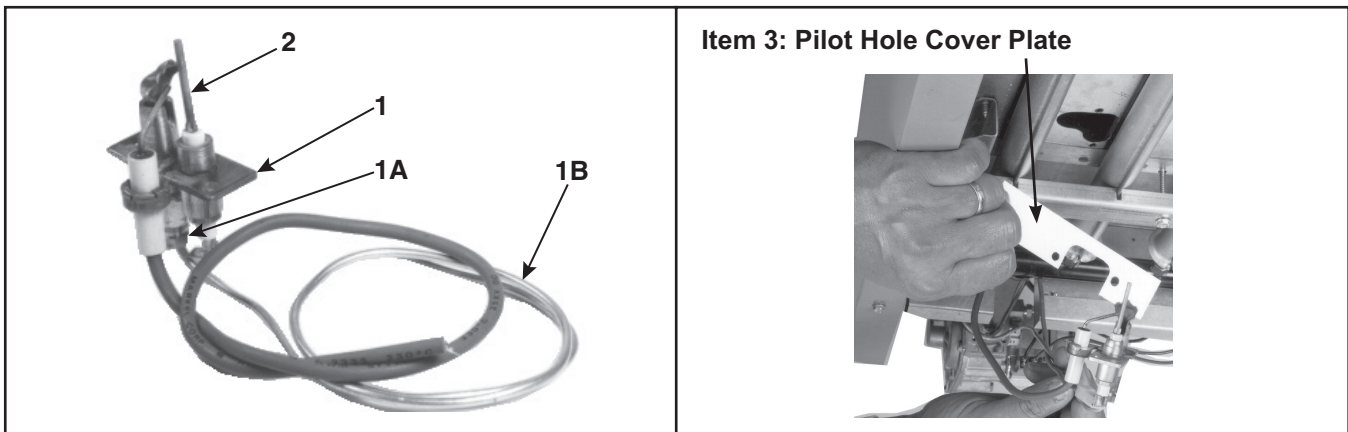

Figure 6. Vertical Spark Pilot Replacement Kit (Refer to Table 9)
- A vertical spark pilot replacement kit (see Figure 6) is available for series 6 models. Components are listed in Table 9.